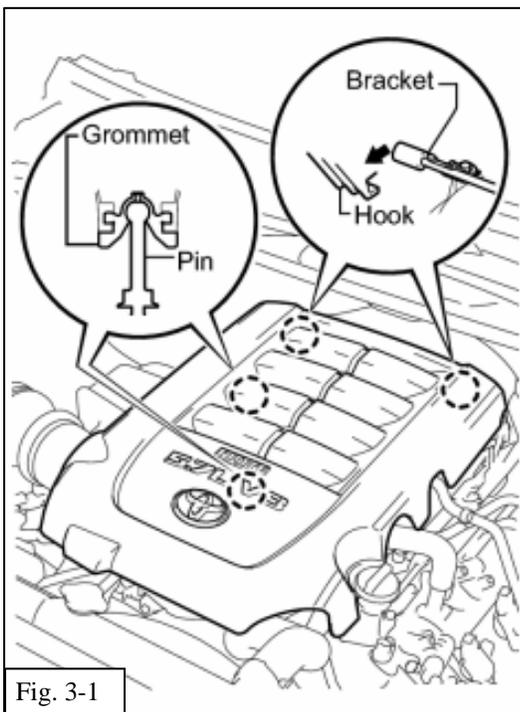

Fig. 3-1
- (a) Raise the front of the engine cover to detach the 2 pins (Fig. 3-1).
- (b) Remove the 2 engine cover hooks from the bracket, and remove the cover (Fig. 3-1).